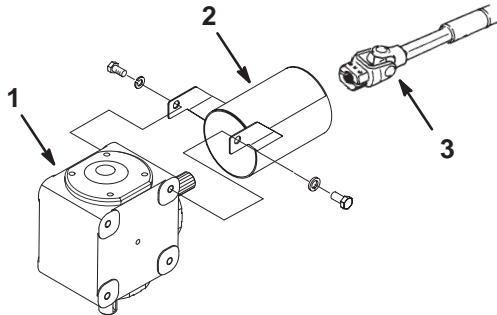

Figure 6
1. Remove (2) capscrews and lockwashers securing PTO guard mounting brackets to gearbox (Fig. 6). Retain fasteners for re-installation.
2. Slide PTO shaft guard onto PTO shaft, positioning guard as shown in figure 6.
6. Re-install PTO shaft guard to gearbox with (2) capscrews and lockwashers previously removed.